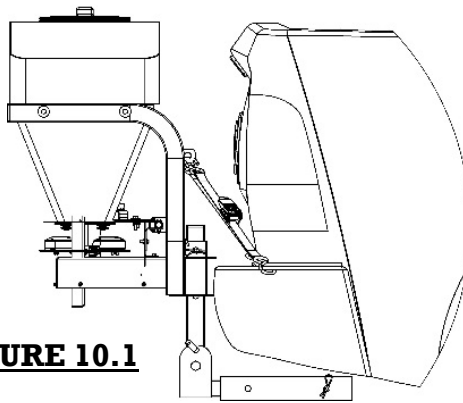
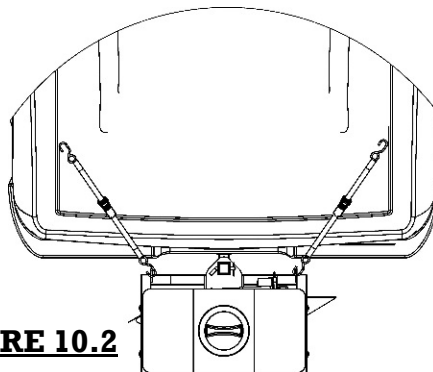
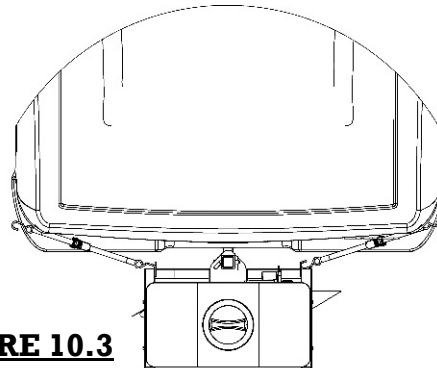

FIGURE 10.1
FIGURE 10.2
FIGURE 10.3
4. After the Spreader is mounted vertically, finish securing the Spreader by attaching the (2) Adjustable Straps provided. Tighten the straps until the Spreader is rigid with the vehicle. This will help fix the Spreader rigid to the vehicle. Suggestions on mounting locations shown in **FIGURE 10.1**, **FIGURE 10.2** & **FIGURE 10.3**.
- Strapping to factory tie down locations (**FIGURE 10.1**) or rigid parts of the vehicles bumper (**FIGURE 10.2**) are recommended.